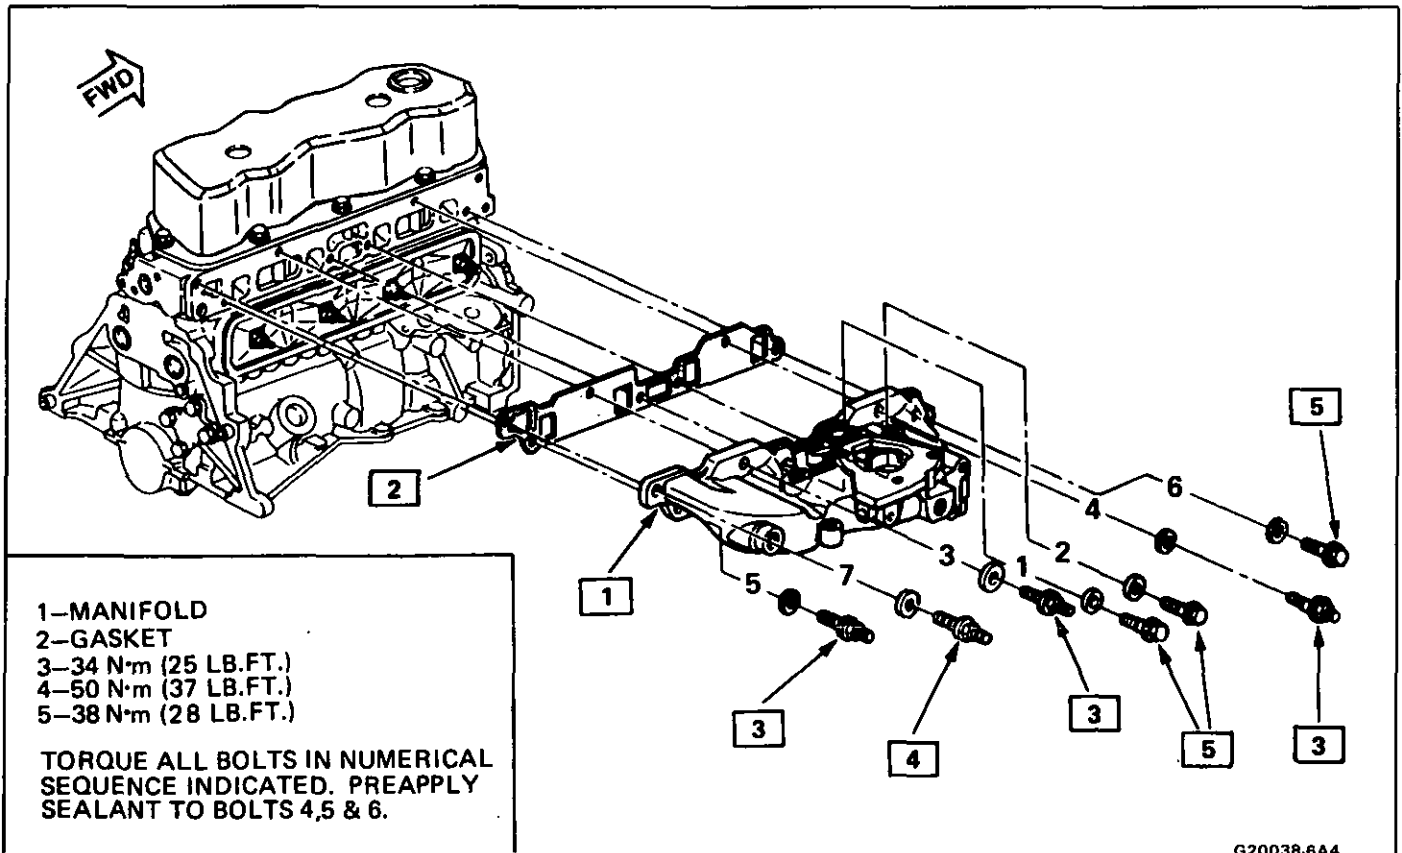

Fig. 10 Intake Manifold Bolt Torque Sequence
- In sequence, and to specification shown in Fig. 10.